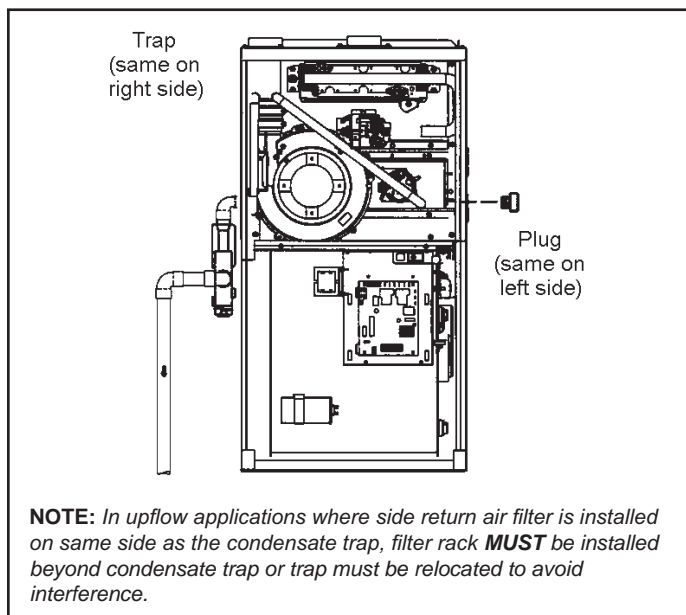
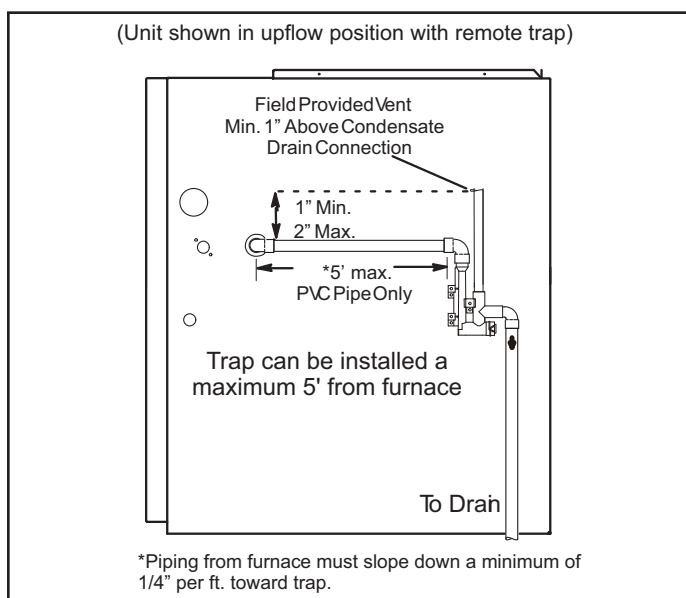
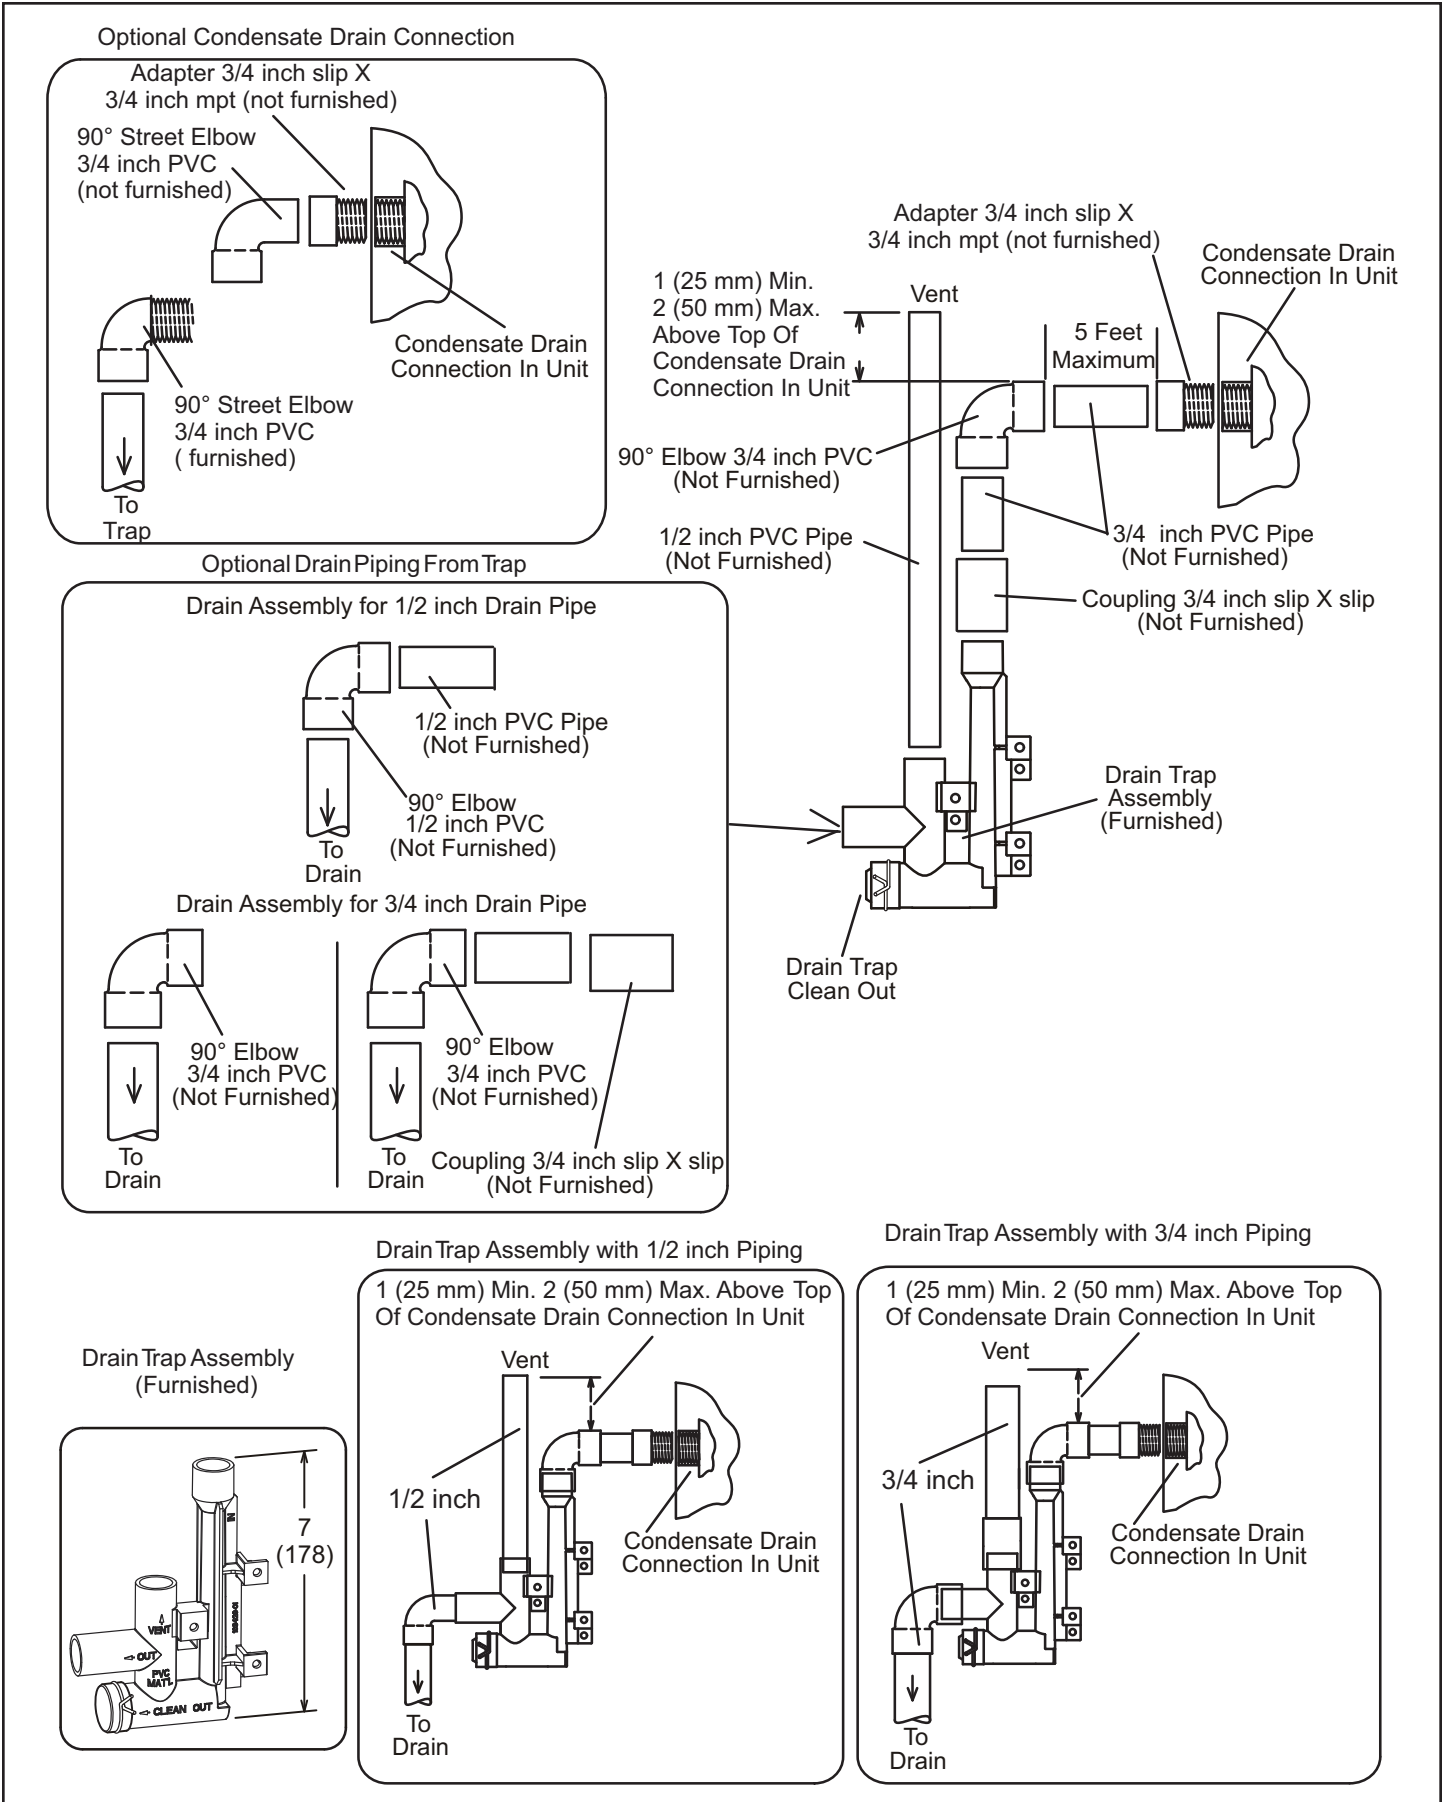
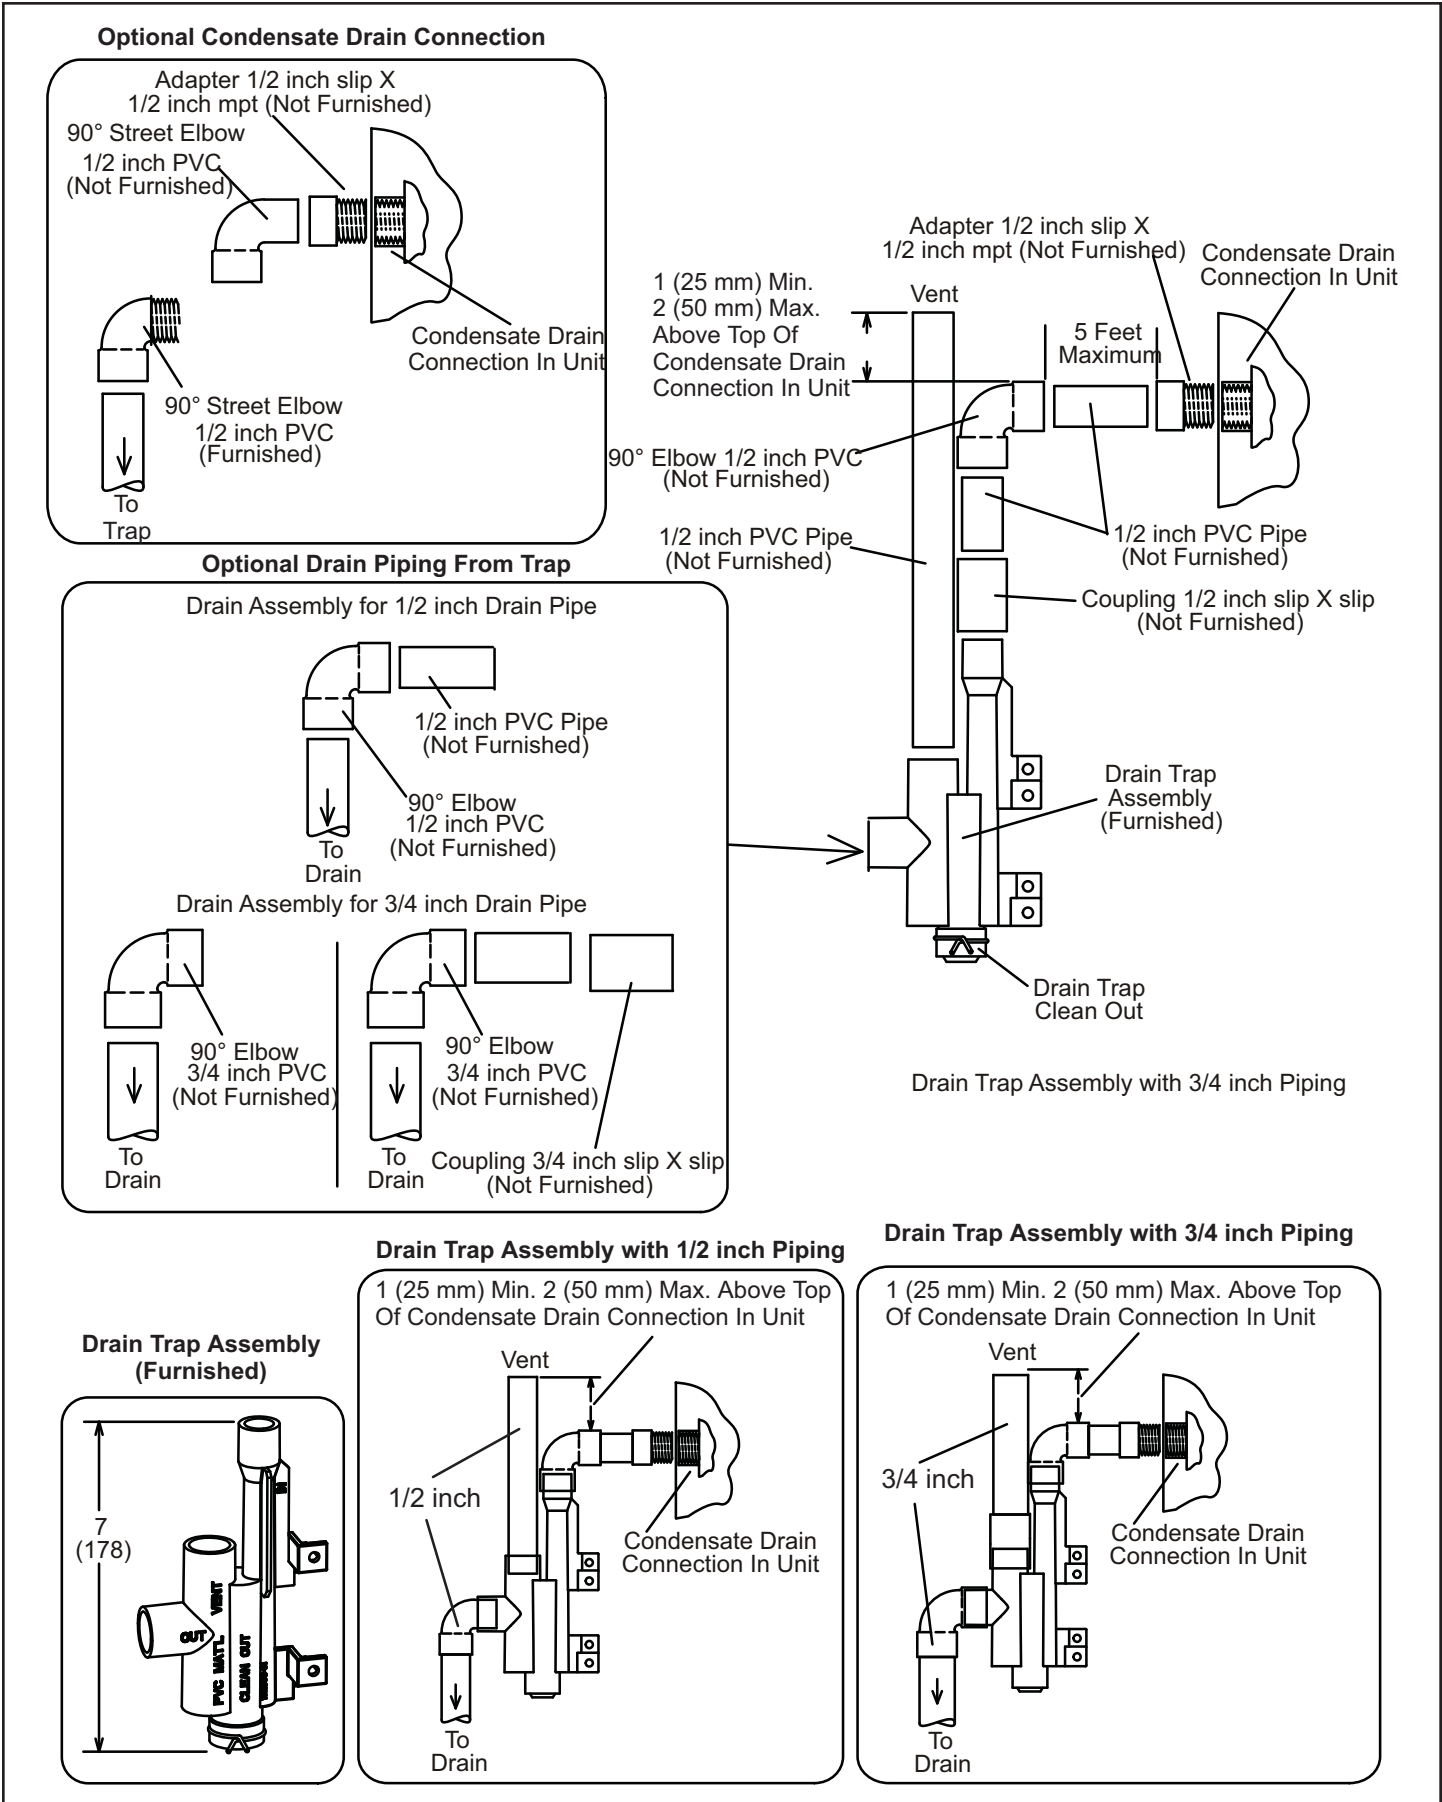

Figure 40. Condensate Trap and Plug Locations (unit shown in upflow position)
Figure 41. Condensate Trap Locations
Figure 48. Trap / Drain Assembly Using 1/2" PVC or 3/4" PVC Cold End Header Box with 3/4 Drain Connection
Figure 49. Trap / Drain Assembly Using 1/2" PVC or 3/4" PVC Cold End Header Box with 1/2 Drain Connection
This unit is designed for either right- or left-side exit of condensate piping in upflow applications. In horizontal applications, the condensate trap must extend below the unit. An 8" service clearance is required for the condensate trap. Refer to Figure 40 and Figure 41 for condensate trap locations. Figure 48 and Figure 49 show trap assembly using 1/2" PVC or 3/4" PVC.
2. Use a large flat head screw driver or a 1/2" drive socket extension and remove plug (Figure 40) from the cold end header box at the appropriate location on the side of the unit. Install provided 3/4 NPT street elbow fitting into cold end header box. Use Teflon tape or appropriate pipe dope.
3. Install the cap over the clean out opening at the base of the trap. Secure with clamp. See Figure 48 and Figure 49.
4. Install drain trap using appropriate PVC fittings, glue all joints. Glue the provided drain trap as shown in Figure 48 and Figure 49. Route the condensate line to an open drain. Condensate line must maintain a 1/4" downward slope from the furnace to the drain.